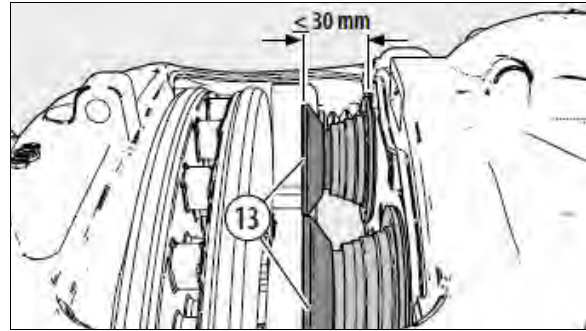

FIGURE 50: SCREW OUT TAPPETS - MAX. 1.181 IN / 30 MM
Screw out the tappets (13) using the shear adapter (61) clockwise until the boots are clearly visible (see Figure 50).